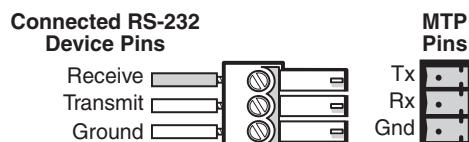

Figure 2-4 — RS-232 connector wiring
- ③ **Monitor connector** — Connect a video monitor to this 15-pin HD connector for buffered, high resolution video loop through.
- ④ **RS-232 connector** — Connect a serial communications device to this 3.5 mm, 3-pole captive screw connector for bidirectional RS-232 communication. Wire the connector as shown in figure 2-4.